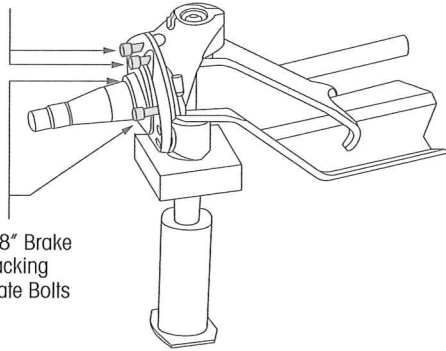

Figure 20.
9. Remove the brake backing plate bolts and socket head cap screws. (See Figure 20)